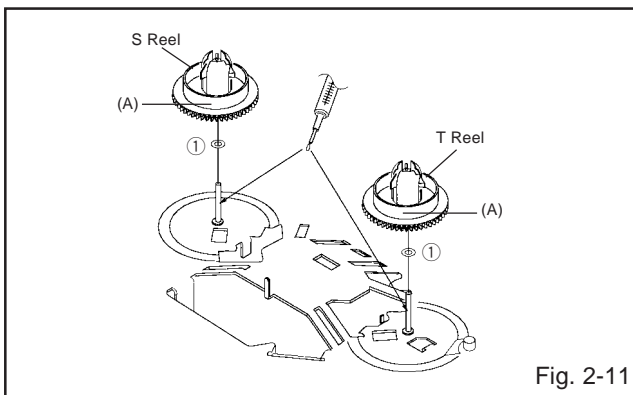

Fig. 2-11
2-11: S REEL/T REEL (Refer to Fig. 2-11)
4. Do not touch the section "A" of S Reel and T Reel. (Use gloves.) (Refer to Fig. 2-11) Do not adhere the stains on it.